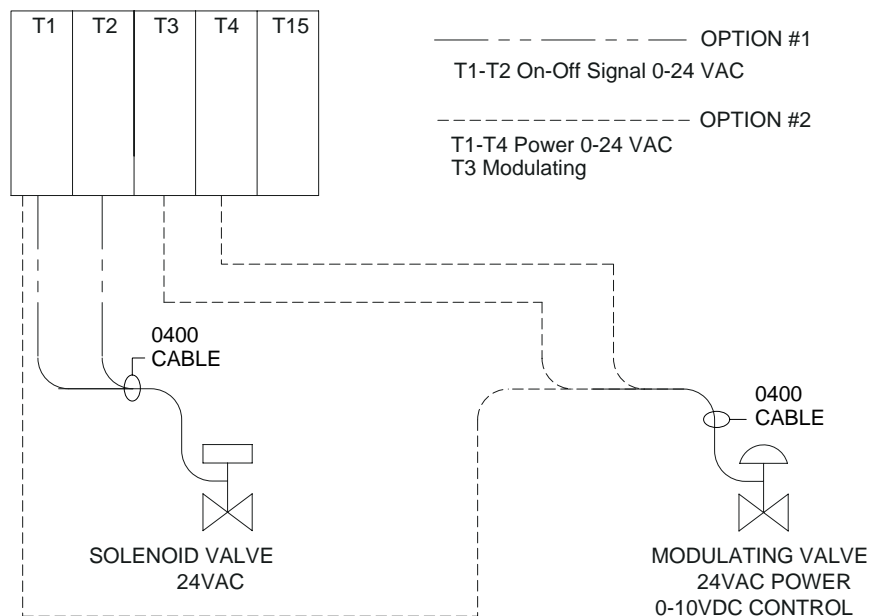

FIG. 18 - HW VALVE CONTROL WIRING
- Control wiring for UFW terminals with hot water valves (by others) are connected thru a KO in the side close to the power entry; either open/spring return close or modulating valve control is wired to a terminal block in the control box (*see Fig.18 for wiring details*).